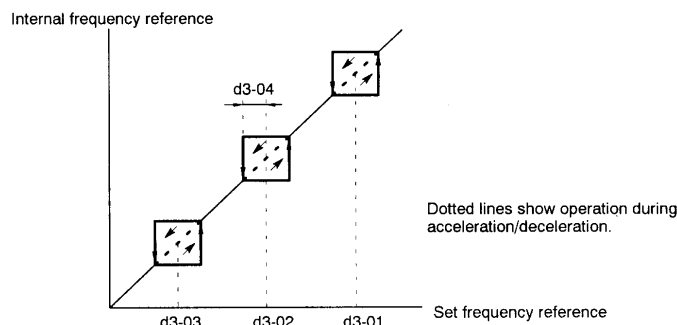

Figure 7.28 Setting Prohibited Frequencies
- The relation between the internal frequency and the set frequency references is shown in *Figure 7.28*.